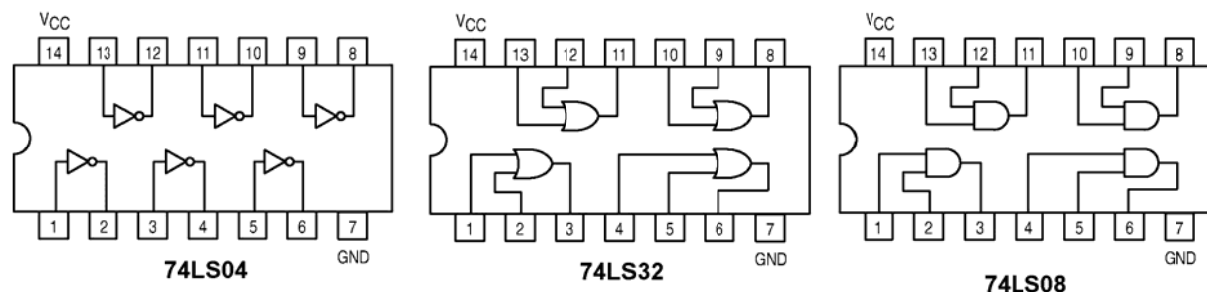
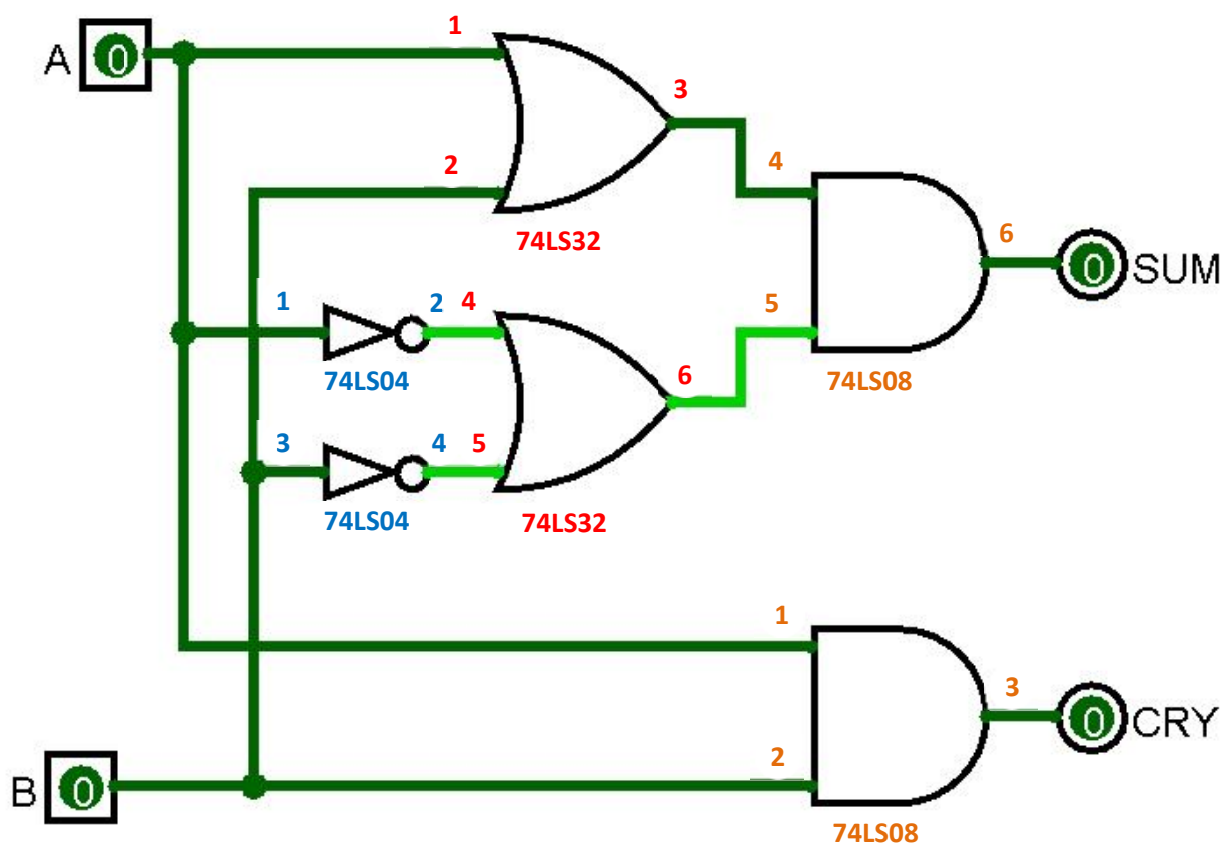

Figure 2: Pin-out diagrams of the logic chips used in Hardware Lab 1, Task 1-1. (Copyright of Motorola. Used with permission.)
Figure 3: Schematic diagram of the half adder with chip numbers and pin numbers added.
While we could start building right away, we should look at step #6 in our first list again. It helps tremendously if we label the individual gates in the schematic we drew up in our simulation software (for example Logisim) with the pin numbers of the actual gates in the chip (see Figure 2) we want to use. Figure 3 shows how to accomplish this.
Based on the pin-out diagrams in Figure 2 and the labeled schematic in Figure 3 you can now start building the circuit on the breadboard:
5. Complete the connections as shown in Figure 3.
Figure 4: (Left) Firmata test panel used to interact with the digital logic circuit. The Analog Input A0 on Pin 14, labeled VM is only used for Task 1-2 "Debugging". The output Pin 4 labeled C_{in} is only used for Task 1-3 "Building and Testing the Full Adder". (Right) The top image shows a circuit diagram generated by professional circuit design software (Cadsoft Eagle), showing the similarity between the approach taken in Figure 3 and a professionally designed schematic, used to generate the layout for a printed circuit board. The lower image shows a wiring layout generated by Cadsoft Eagle, mimicking a breadboard-based design. The blue wires indicate the internal electrical connections, while the red wires indicate connections that have to be made in order to complete the circuit. Green dots indicate contact holes with wires or pins being plugged into the breadboard.
Then, use a wire connected to the Arduino Analog Input A0 to probe the actual voltage levels at that output and trace the signal back to the input(s), following the pin diagram shown in Figure 3. When debugging, it is helpful to have the simulation software up and running to compare the values you “measure” with the logic values you expect to see in a working circuit. A table listing the IC pins from Figure 3 in which you enter the expected values and the measured values might also be helpful.